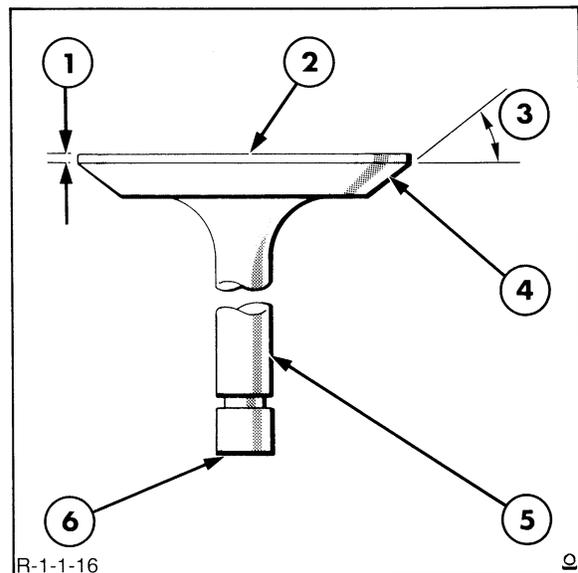

FIGURE 1-17
1. The critical inspection points of the valves are shown in Figure 1-17. Inspect the valve face and the edge of the valve head for pits, grooves, scores, or other defects. Inspect the stem for a bent condition and the end of the stem for grooves or scores. Check the valve head for cracks, erosion, warpage, or burn. Minor defects such as small pits or grooves can be removed. Check the valve tip for pits or grooves and replace the valve if such a condition exists. Discard valves that are severely damaged.
4. Any valve refacing operation should be closely coordinated with the valve seat refacing operation so that the finished angle of the valve is 1 degree less than the valve seat to provide an interference angle for better seating. Adjust the valve refacing tool to obtain a face angle of 44 degrees, Figure 1-17.